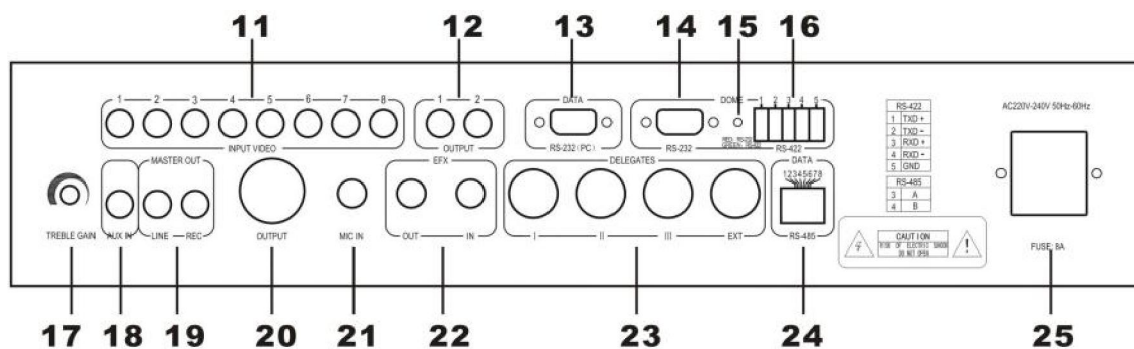
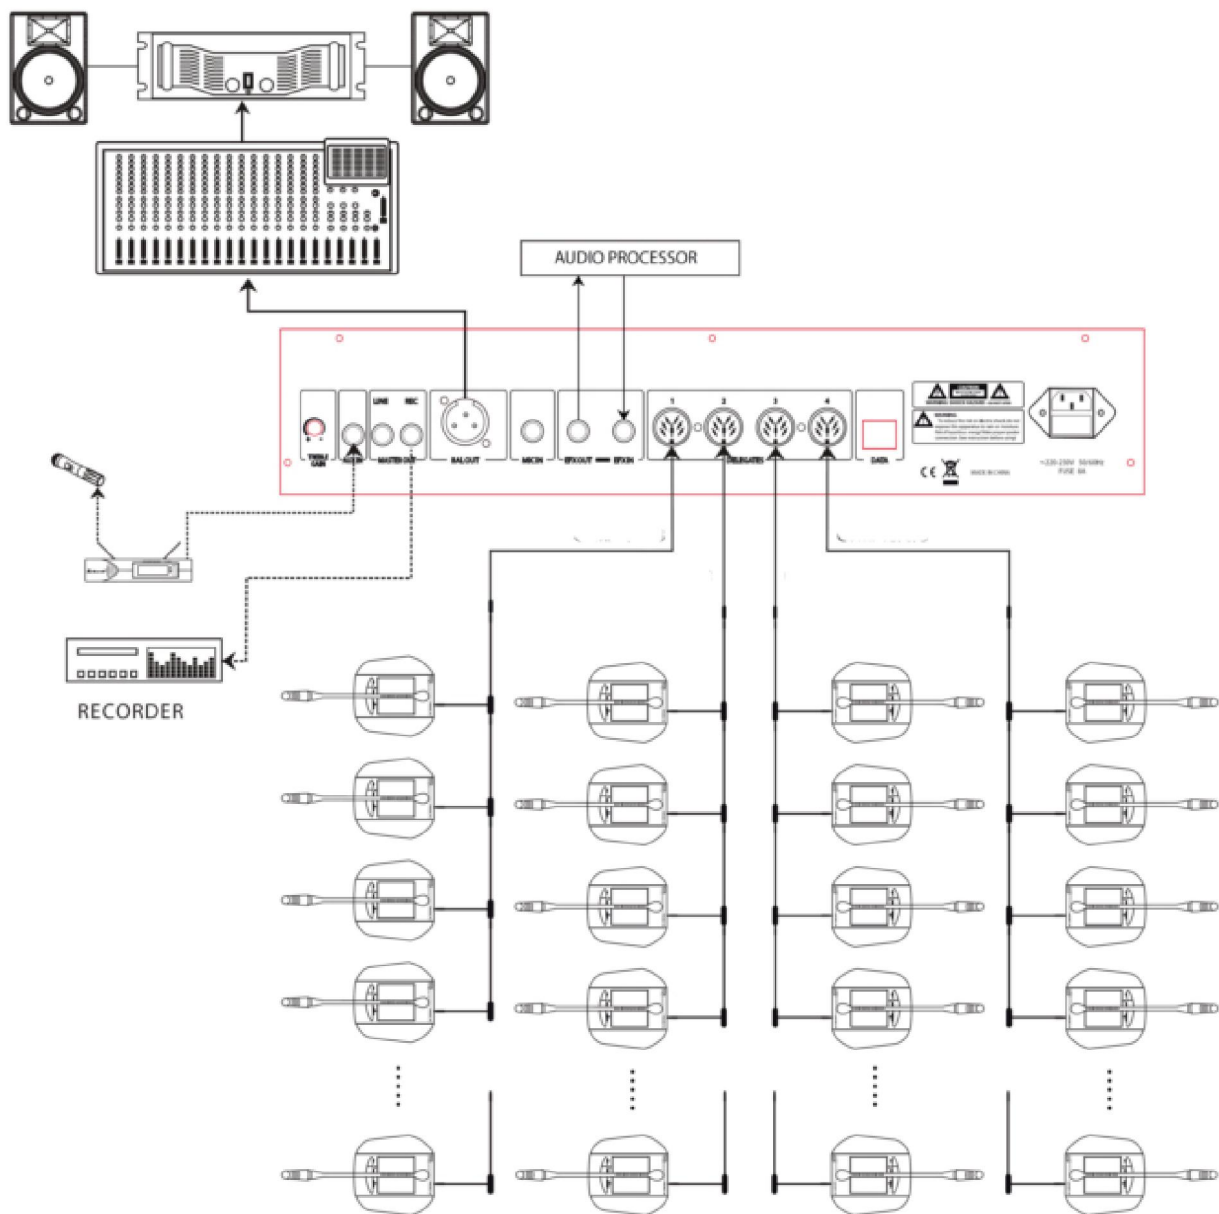

fig.2
fig.5
Sets the audio level of any dynamic microphone connected to MIC IN (fig. 2 – ref. 6)
Sets the audio level of any audio source (wireless microphone, CD player, etc.) connected to AUX IN (figure 2 – ref. 7)
Sets the level on MASTER OUT (figure 2 ref. 4, 5)
Connect the unit to 230 V AC 50/60 Hz mains . Use the connection cables provided to connect the daisy-chained stations to the 4 **BASE INPUT**s (figure 2, ref. 23) as shown in **figure 5**, paying attention not to connect more than 30 stations to each line and no more than 64 stations altogether.